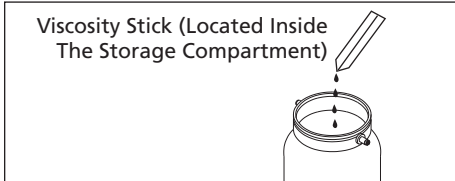

Figure 6 - Viscosity Stick
- Using the following procedure, check viscosity of spray material before locking gun onto the paint cup (Figure 6).